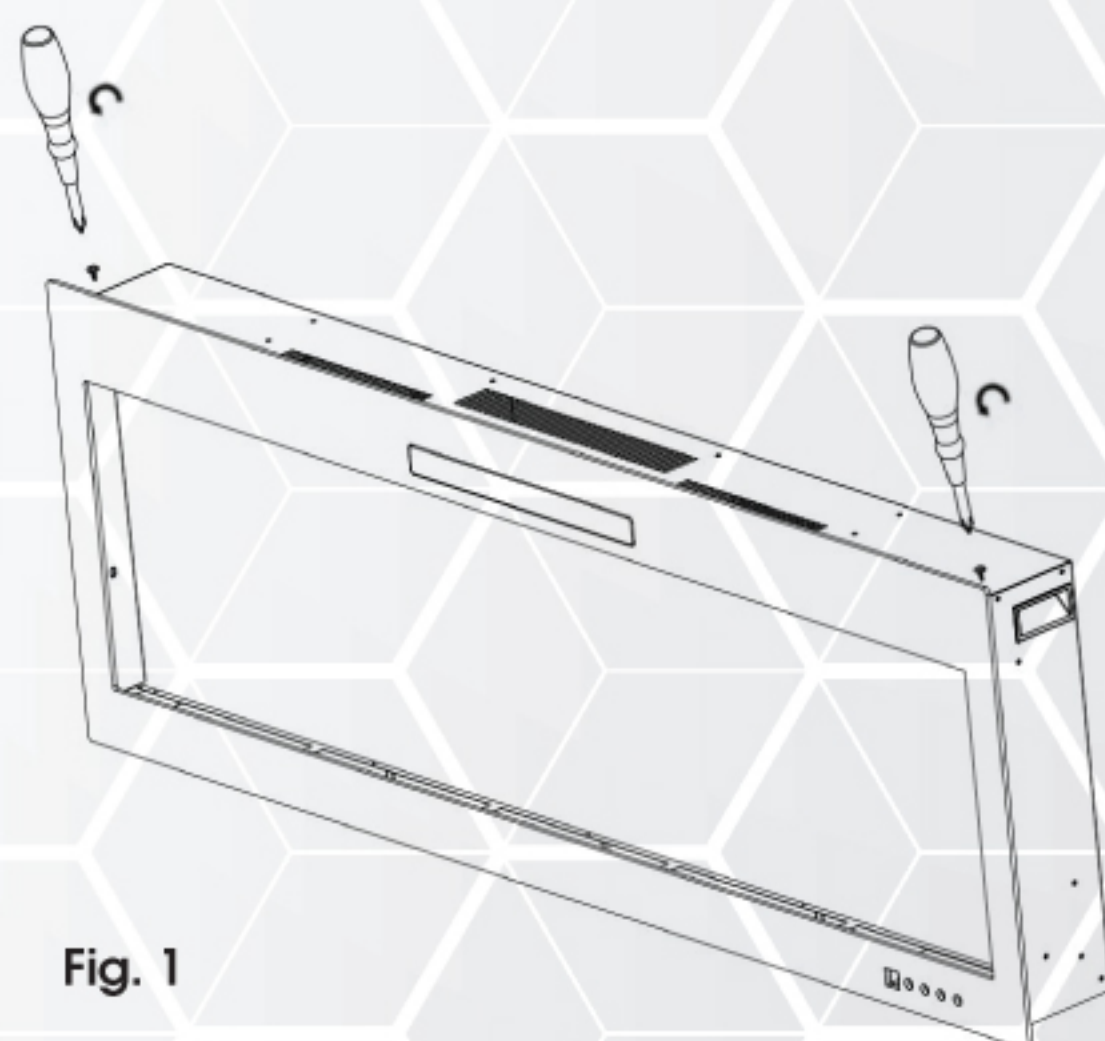

Fig. 1
- Place unit face down on a soft, non abrasive surface. Remove the bracket from the back of the unit by removing the screws, refer to **Fig.1**.
- Reinstall the cover plate using the three screws, as shown in **Figure 1**.